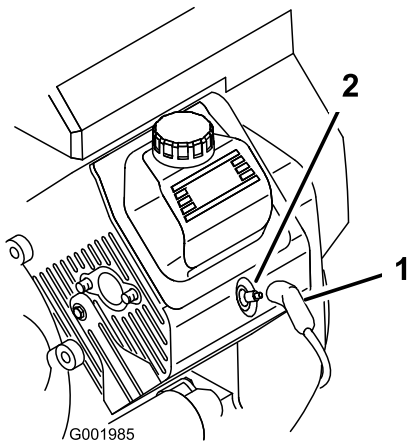

Figure 49
3. Pull the wires off the spark plugs (Figure 49).
3. Push the wires onto the spark plugs (Figure 49).